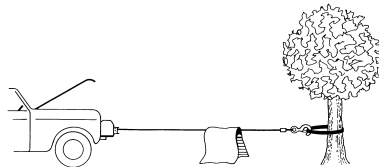

Figure 5
10. It is a good idea to lay a heavy blanket or jacket over the wire rope near the hook end when pulling heavy loads (Figure 5). If a wire rope failure should occur, the cloth will act as a damper and help prevent the rope from whipping. Raise the hood of the vehicle for added safety.